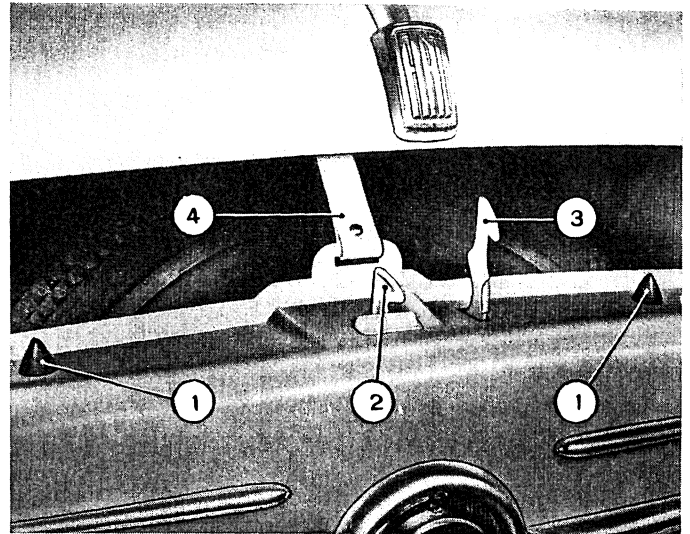

Fig. 496 - Close-up view of front compartment lid locking system, « Sedan ».
Lid is kept closed by a locking catch (2, fig. 496). A safety hook (3) is provided to avoid accidental opening.
fingers and push in the safety hook (3, fig. 496) which is pivoted on a hollow clenched pin. A spring is provided for hook return.
On body front panel are fitted two cones (1, fig. 496) for lid lifting.